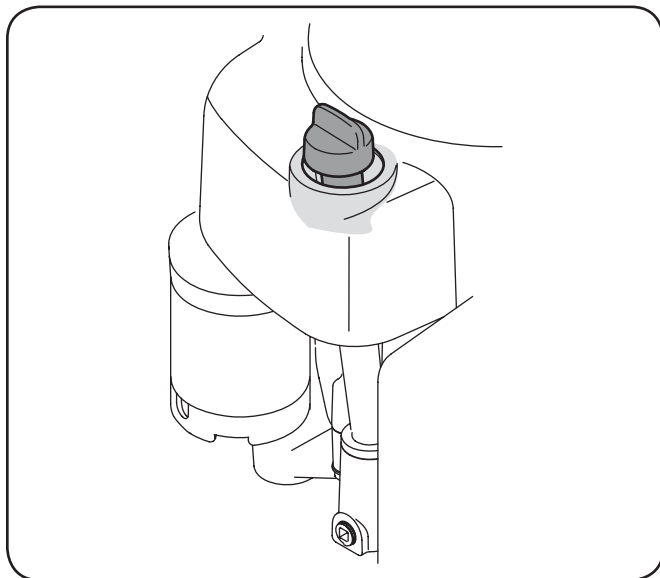

Figure 6-3
1. Wipe around dipstick cap and tube with a clean cloth to remove any debris. See Fig. 6-3.